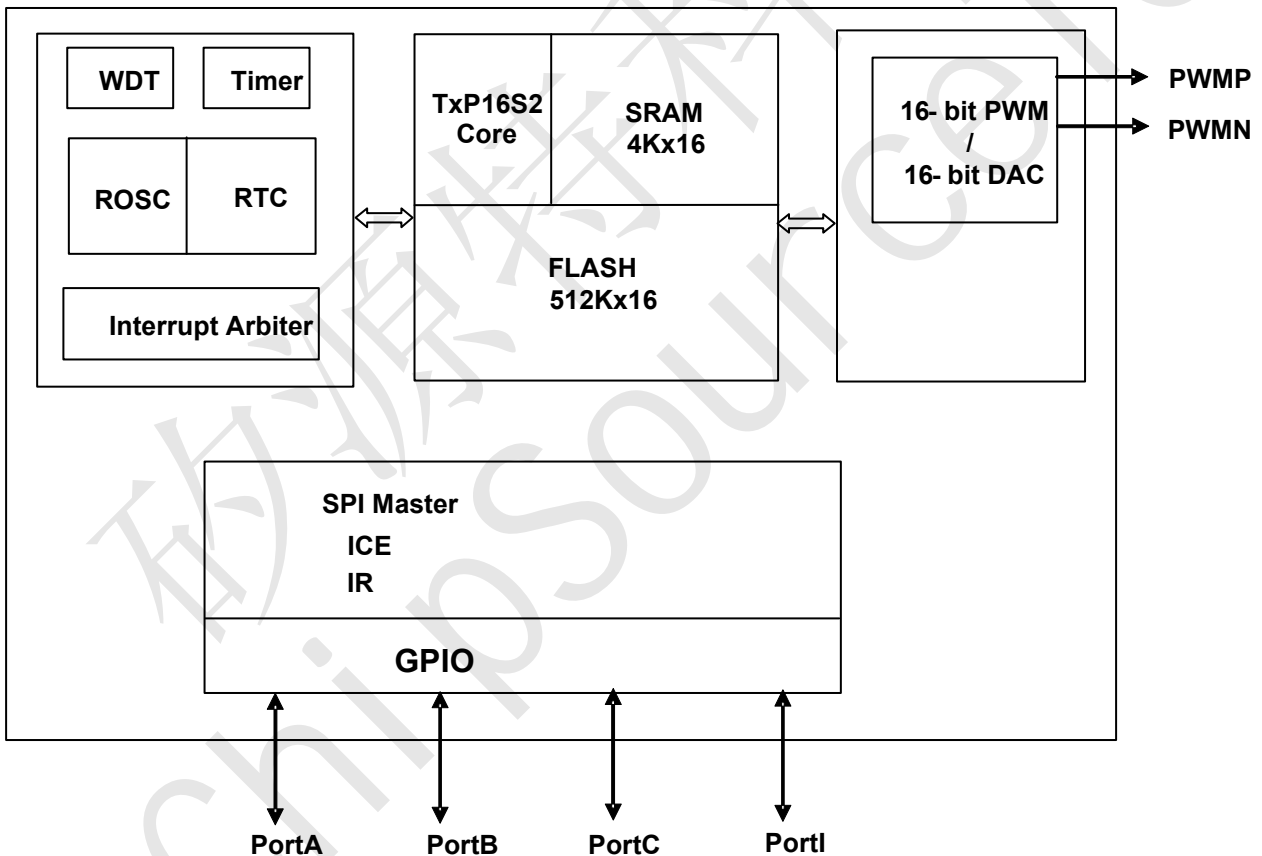

Figure 4.1
As shown in the block diagram in Figure 4.1, the TxP16S2 is a 16-bit data width processing capability and all instructions are operated in one cycle except parameter data ROM(PM) access. The TxP16S2 not only provides general arithmetic such as addition, subtraction, shifter, normalize, and other logical operations, but it also involves circular buffer operations for complexity digital signal processing.